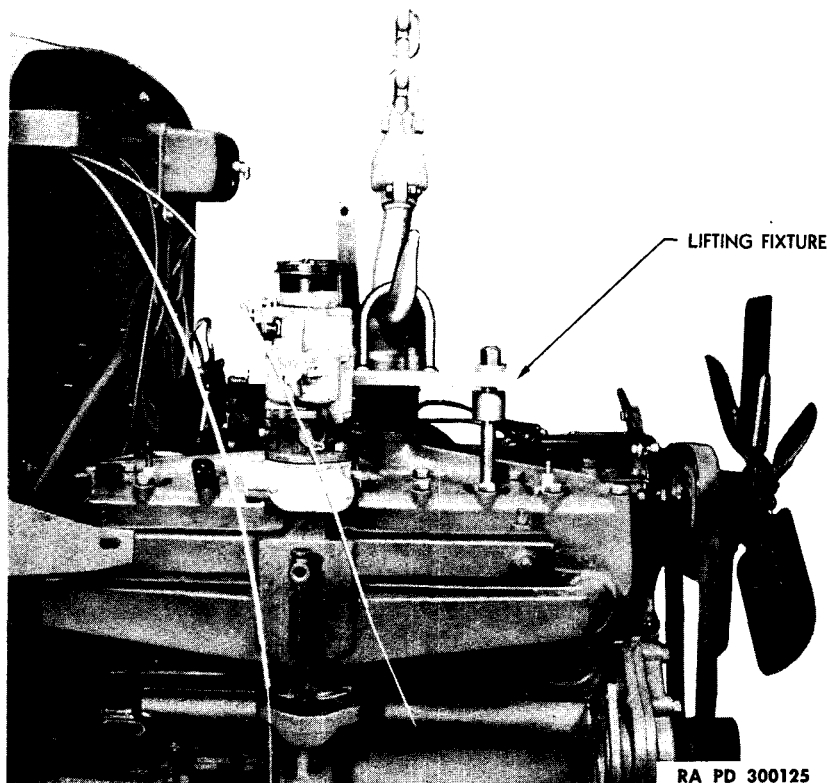

Figure 30—Removing Engine Assembly
k. **Remove Engine.** Install engine lifting fixture (fig. 30), or if not available, use rope sling. Lift engine from chassis by raising engine assembly sufficient distance to relieve weight on brackets, then lift forward to clear chassis, or move chassis rearward to clear engine.